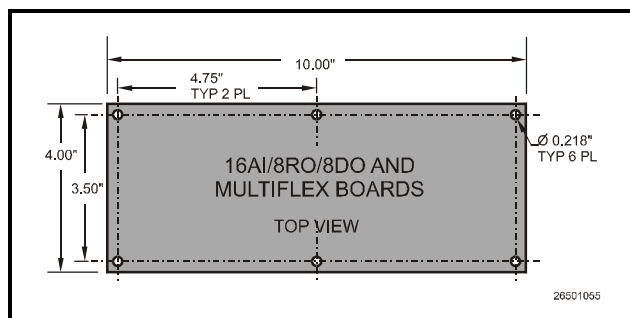
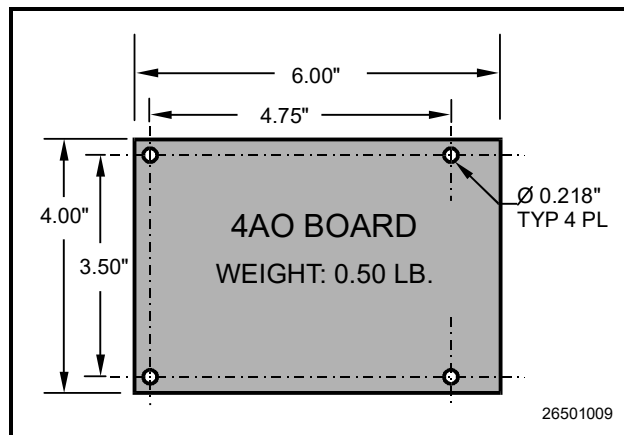

Figure 3-9- 16AI/8RO/8DO Mounting Dimensions
Figure 3-11 - 4AO Mounting Dimensions
**Figure 3-7** shows the dimensions and weight for the Single enclosure. **Figure 3-8** shows mounting dimensions for the Double enclosure. When mounting boards inside the enclosure, refer to **Figure 3-9** for mounting
**Figure 3-9** provides mounting dimensions for the MultiFlex, 16AI, 8RO, and the 8DO boards. **Figure 3-11** provides mounting dimensions for the 4AO.